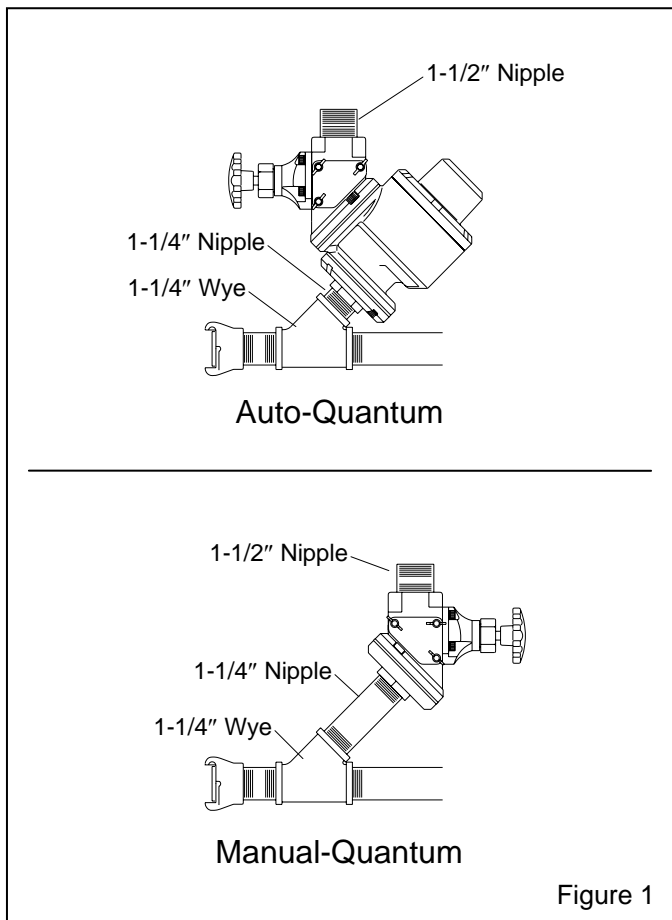

Figure 1
2.2 Install the 1-1/4" outlet nipple and wye onto the metering valve as shown in Figure 1.
2.3 Using the 1-1/2" nipple, install the valve on the blast machine. Position the valve assembly so the wye is aligned as shown in Figure 1. NOTE: On some blast machines it may be necessary to disassemble the valve at the upper body in order to rotate the valve onto the machine. Some realigning of the vertical and horizontal piping may be required to align the piping.